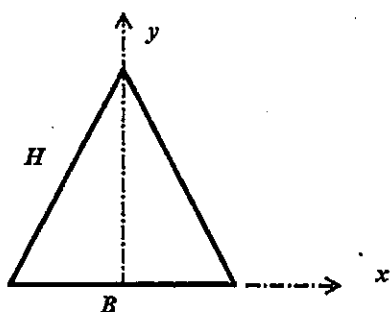

Fig.1 二等辺三角形断面
- 1) Fig.1 に示す底辺  $B$ 、高さ  $H$  の二等辺三角形断面の図心（中立軸）を求めなさい。なお、断面は均質材料から成るものとする。
Answer the centroid, i.e., the origin of the neutral axis, of the isosceles triangle cross-section with base of  $B$  and height of  $H$ , which is shown in Fig.1. Note that the cross-section is composed of a homogeneous material.
- 2) 同じく Fig.1 の二等辺三角形断面で、1) で求めた中立軸に関する断面 2 次モーメント  $I$ （下式で与える）をもとめなさい。
Consider the same isosceles triangle cross-section in Fig.1. Calculate the second moment of area  $I$ , which is defined as the following equation, to the neutral axis, which is derived in question 1).
Triaxial compression tests were conducted on undisturbed samples taken from point A at a depth of 14m in normally-consolidated clay ground as shown in Fig.1. Answer the following questions. Unit weight of water  $\gamma_w$  is  $10 \text{ kN/m}^3$ .
図-1 (Fig. 1)